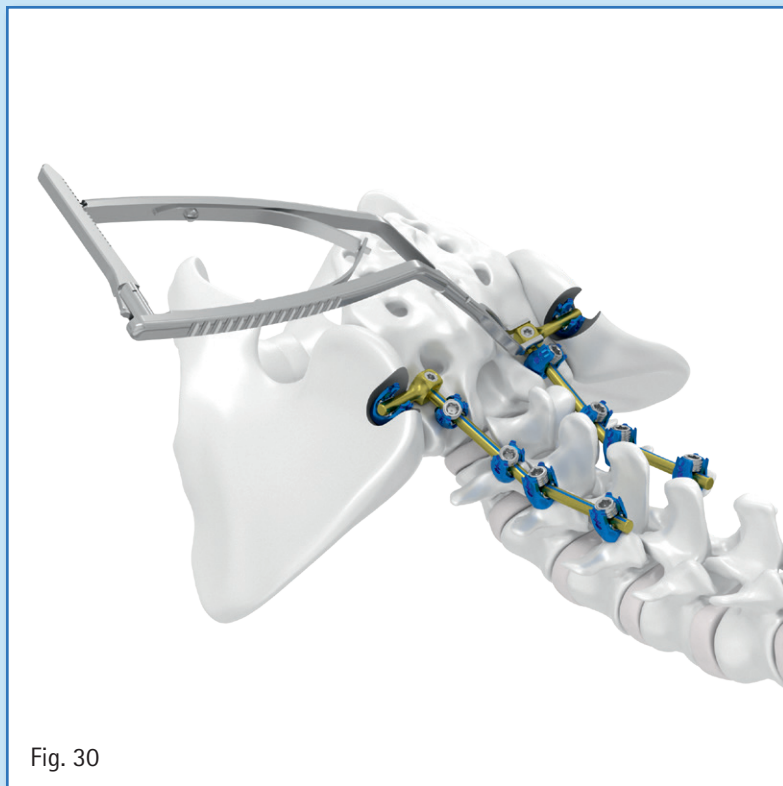

Fig. 30
2. Choose the desired Lateral Offset Connector type based on the measured length and patient anatomy. Verify there are no obstructions before placing the Connector. Prior to placement, ensure that the Offset Connector Set Screws are backed out to prevent damage to the implants. (Fig. 30)